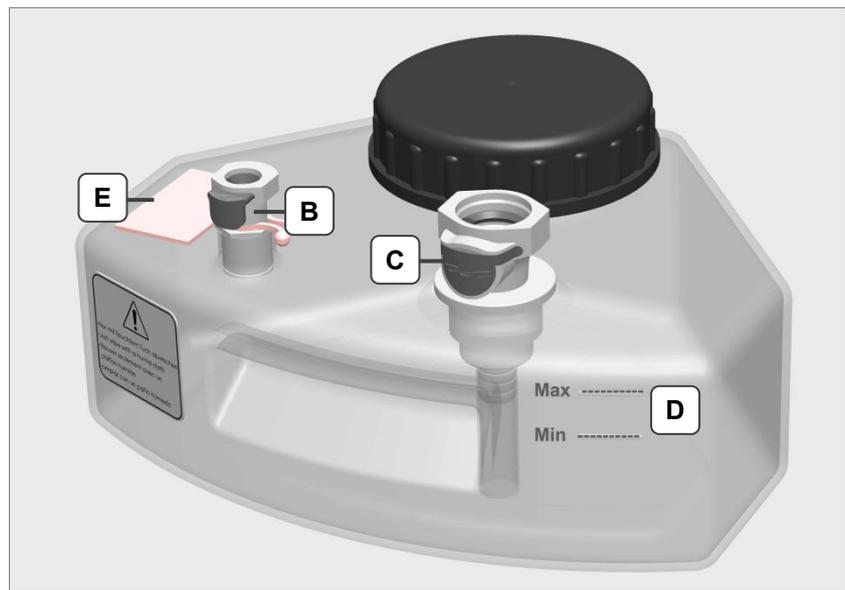

Fig. 4.4.3 Media tanks
Removable labels are attached to the media tanks for individual assignment and recognition of the filled media (*Fig. 4.4.3.E*).
Press the respective unlocking button on the shut-off valve of the media tank (*Fig. 4.4.3.B/C*) and pull the tube connection upwards out of the shut-off valve at the same time.
4. Open the screw cap and fill the media tank with the suitable cleaning medium up to a filling level between the *Min – Max* markings (*Fig. 4.4.3.D*).
The filling level of the operating materials must always be between the markings (*Fig. 4.4.3.D*) to guarantee proper operation of the cleaning machine and an optimal cleaning result.